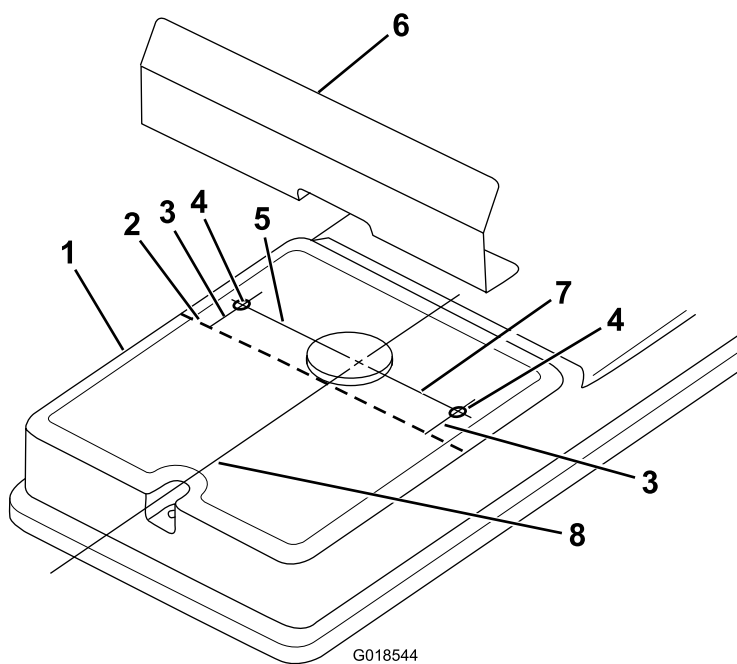

Figure 1
1. Place the deck-belt-cover guard onto the deck-belt cover where it is to be installed, and mark its position; refer to Figure 1.